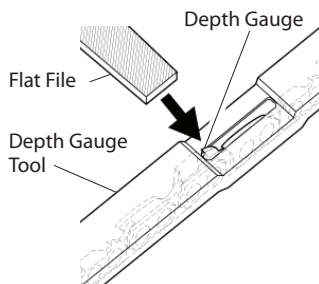

Figure 34 - Depth Gauge Tool On Chain
1. Place depth gauge tool (.025") firmly across top of two cutters. Make sure depth gauge enters slot in depth gauge tool (see Figure 34).